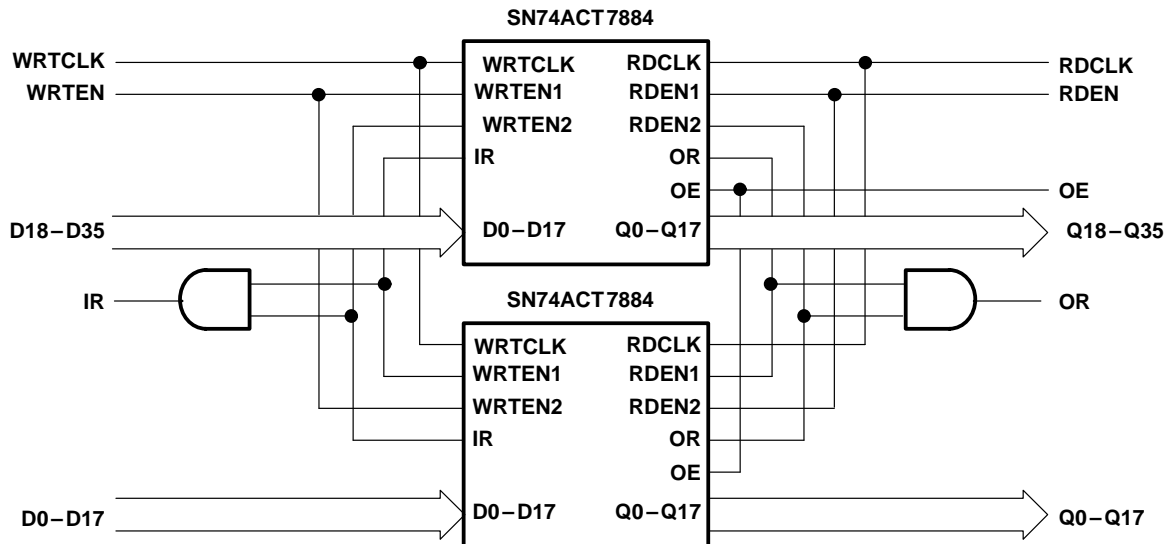

Figure 10. Word-Width Expansion: 4096 Words × 36 Bits
Figure 10 is an example of two SN74ACT7884 devices in word-width expansion. Width expansion is accomplished by simply connecting all common control signals between the devices and creating composite input-ready (IR) and output-ready (OR) signals. The almost-full/almost-empty flag (AF/AE) and half-full flag (HF) can be sampled from any one device. Depth expansion and width expansion can be used together.